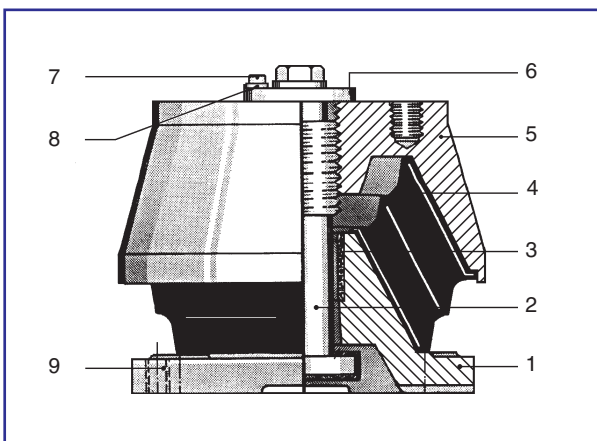

Fig 1 Conical element
- 1) Fit the conical elements to the bracket on the base frame by means of four bolts screwed into the tapped holes on the top casting (5), see fig 1.
- 2) Remove fixing bolt (7), spring washer (8) and top lock ring (6) from the conical element, see fig 1.
- 3) Position the four jacking bolts in the tapped holes (9) see fig 1, in the base casting (1).
- 7) Turn all the internal buffers (2), see fig 1, to check that they can move freely.
- 8) Care must be taken, during levelling of the installation, to ensure that individual mountings are not overloaded. The variation in laden height should not exceed 2 mm and should ideally be less. The laden height can be measured between top and base casting at H, on two sides (see fig 1).